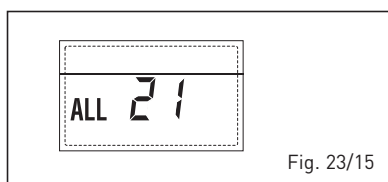

Fig. 23/15
– **SAFETY THERMOSTAT INTERVENTION SECOND MIXED ZONE “ALL 22” (fig. 23/16)**